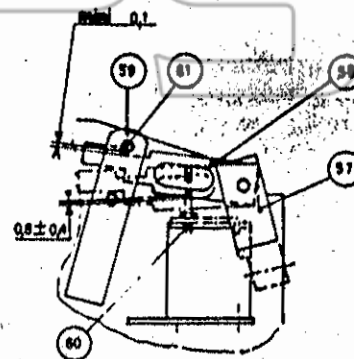

Fig. 23
Holding the striking pin (29) as illustrated in Fig. 23, apply rated voltage to the holding coil, placing release bar in unlatched position. Remove voltage and allow release bar to slowly withdraw observing
NOTE: In order to prevent blocking of the release bar from being reset when breaker opens, it is necessary to return release bar to its latched position by means of the hook illustrated in Fig. 23.
- C. Undervoltage lockout (Fig. 23). When the undervoltage release is provided with lockout to prevent breaker re-closing upon voltage restoration, the